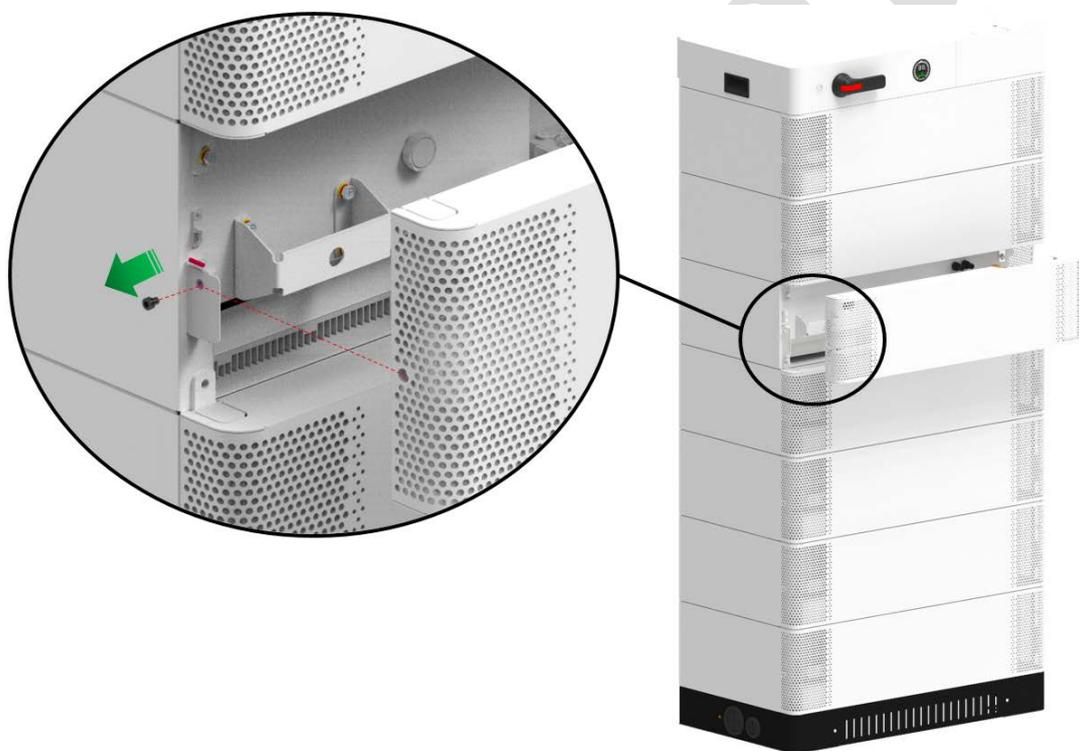

Fig 6.2 Remove fans from the APX battery
4. Loosen the screws on both sides of the battery fan cover with the Allen key, then remove the fan cover as shown in Fig 6.2.